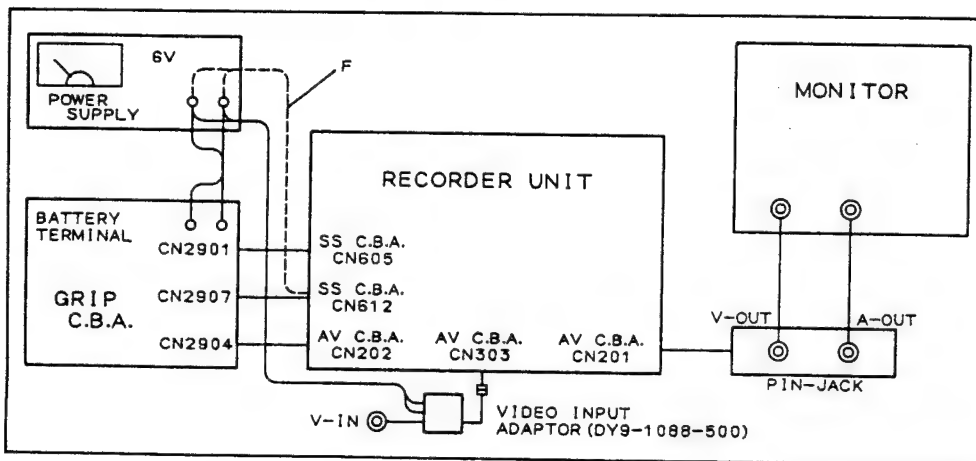

Fig. II-4
(2) Prepare the Video Input Adaptor (DY9-1088-500)
(3) Plug each connectors as follows. (Fig. II-4)